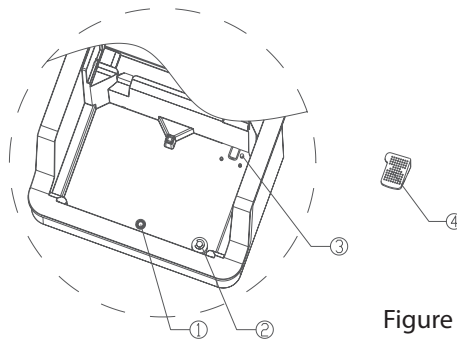

Figure 1
9. Lower water tank built-in parts (Figure 1)
- ① Water plug: before the use of the machine or seasonal change, the surface of the machine needs to be scrubbed clean, by taking out the plug downward to discharge the unclean water;
- ② Float switch: important signaling elements of computer board controlling the upper tank water discharge to the lower tank, surface dirt needs to be cleaned regularly;
- ③ Temperature sensor: monitor the water temperature of the lower tank, the surface dirt needs to be cleaned regularly;
- ④ Filter cover: filter particles, surface dirt needs to be cleaned regularly;